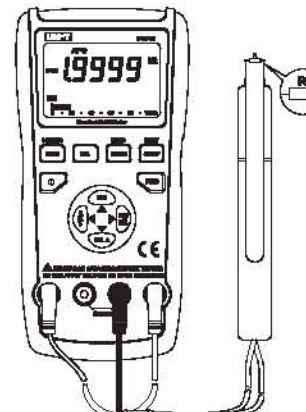

Figure 13
- 3) Insert the resistor into input terminals or connect the resistor to the meter using the test clamp(See Figure 13).